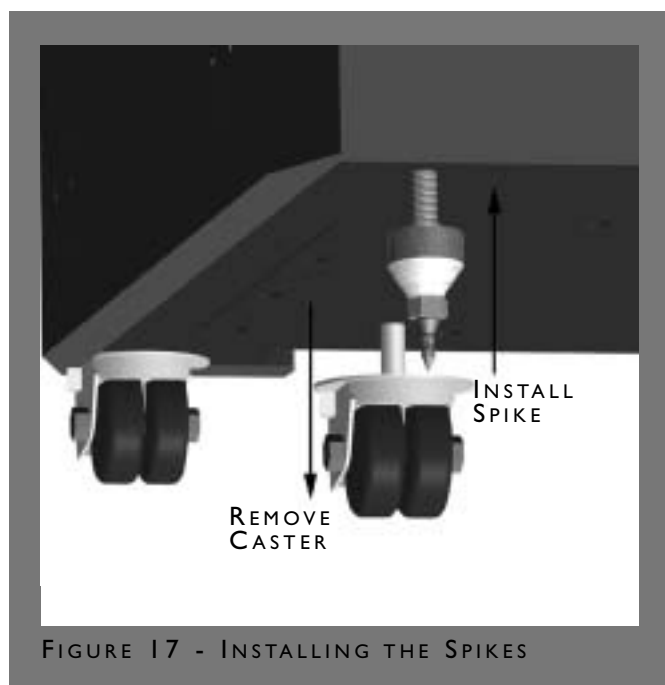

FIGURE 17 - INSTALLING THE SPIKES
**Note: Be very careful NOT TO CROSS THREAD the spikes. The base of the MAXX is made of “X” material and is prone to cross threading (see Figure 17).**